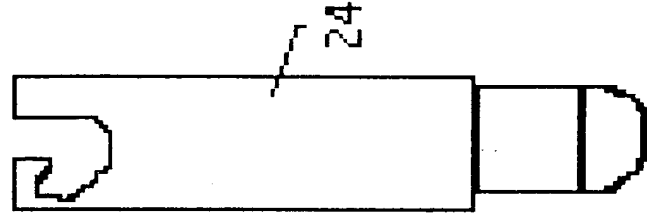

FIG. 9
- Fig 9 shows adaptor for modified spark plug ~~(tip)~~ TERMINAL and conventional spark plug wire, an alternative embodiment.